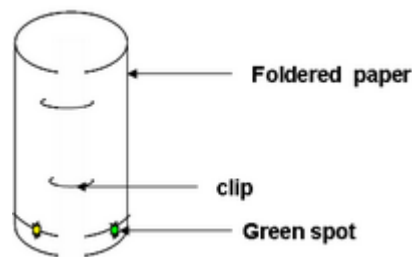

Fig. 2
8. Roll the paper into a cylindrical form and staple the ends together and hold with a clip as shown in the Fig. 2. **The ends should not overlap**